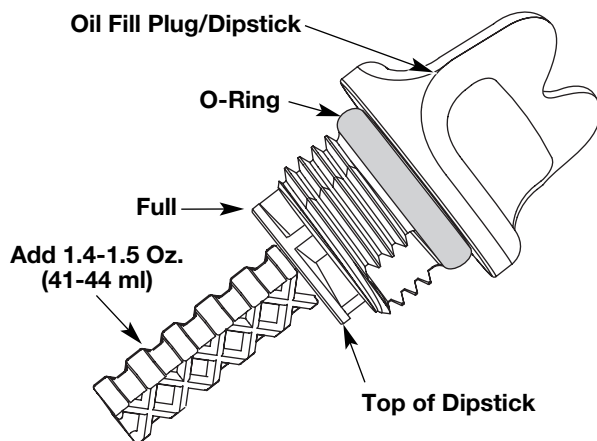

Figure 26
5. Remove the oil fill plug/dipstick and check the oil level. Oil should be up to the top of the dipstick. See Figure 26.